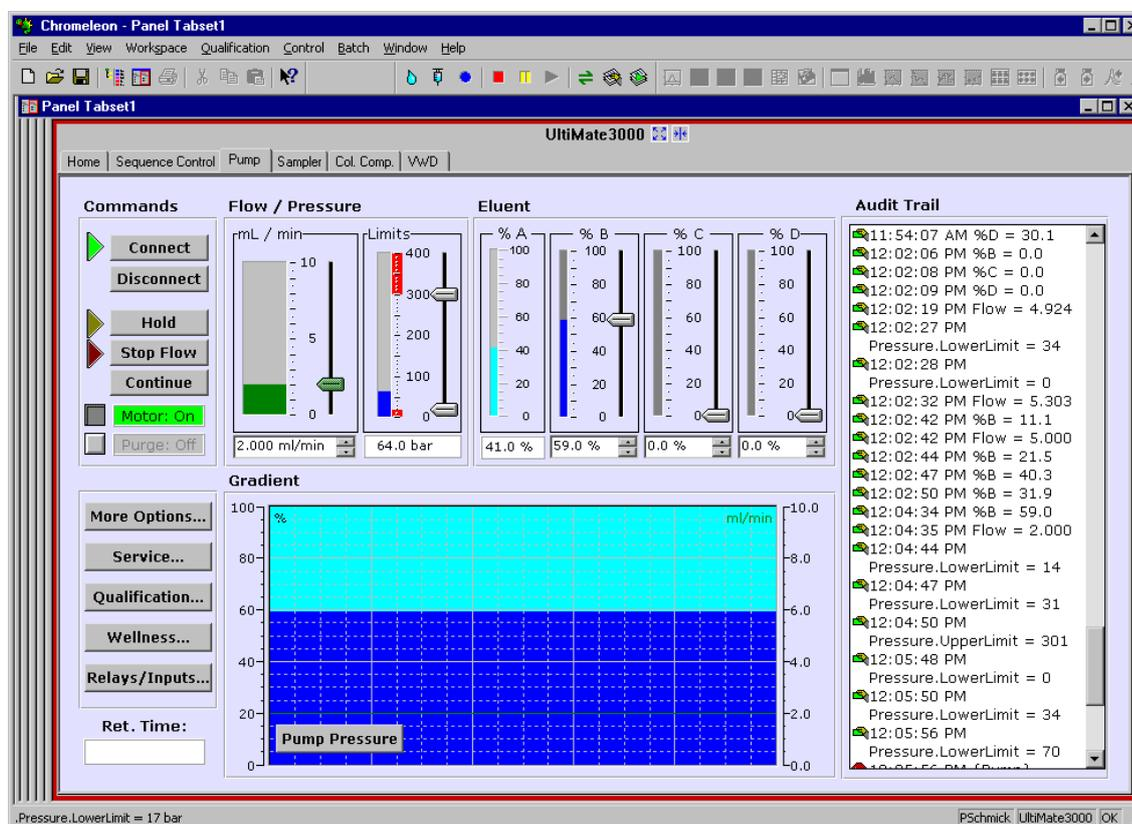

Fig. 28: Pump control panel on the panel tabset
Chromeleon creates centralized control panels, called panel tabsets (→ Fig. 28, page 64), for all timebases available on the Chromeleon server. A panel tabset provides control panels for the individual instruments in a timebase and, in addition, one or more panels for performing system-wide functions, for example, creating and running sequences. For more information about panel tabsets, see the Chromeleon Help.
2. On the **Panel Tabset** for your timebase, click the **Pump** page (→ Fig. 28).